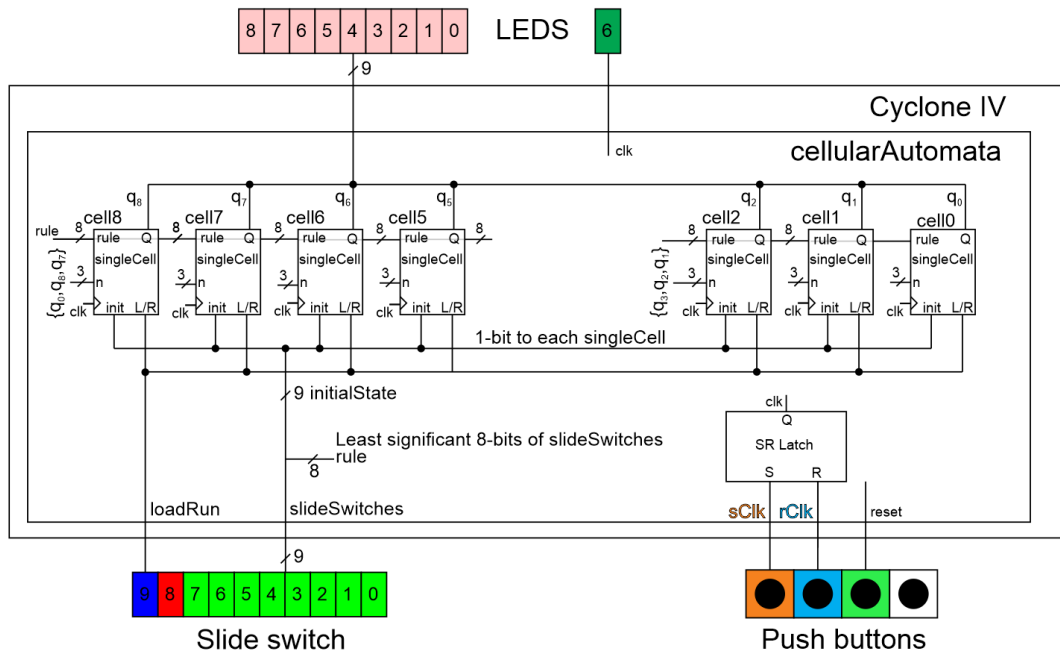
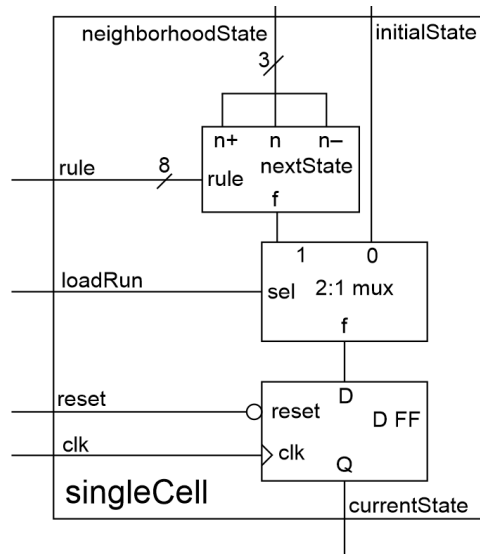

Figure 7.6: The system architecture of the cellularAutomata. Due to tight spacing, only the n inputs to cell8 and cell2 are shown.
Figure 7.7: The architecture and module interface for the singleCell module.
The system architecture shown in Figure 7.6 shows the overall organization of the cellular automata. Slide switches [0-7] are used as initial state when the loadRun slide switch is set to 0. When the loadRun slide switch is set to 1, slide switches [0-7] are used as the evolution rule. The clock is generated by the SR latch whose inputs are sClk and rClk. The state of the cells are displayed on the 9 red LEDs. The processing elements forming the array are called singleCell and discussed in the next section.
- Make cell 8 have cell 0 as its “left” neighbor in Figure 7.6
- Make cell 0 have cell 8 as its “right” neighbor in Figure 7.6
The significant design problem in today’s lab comes in this section, building the singleCell module. The module interface for the singleCell module in Figure 7.6 used some shorthand for the single names due to the space constraints. The internal organization and module interface for the singleCell module is shown in Figure 7.7. For example, the output currentState in this figure was called Q in Figure 7.6. You should be able to decipher the rest of the signal abbreviations used in Figure 7.6.
Table 7.2: The input/output relationship for the nextState functionality in Figure 7.7.